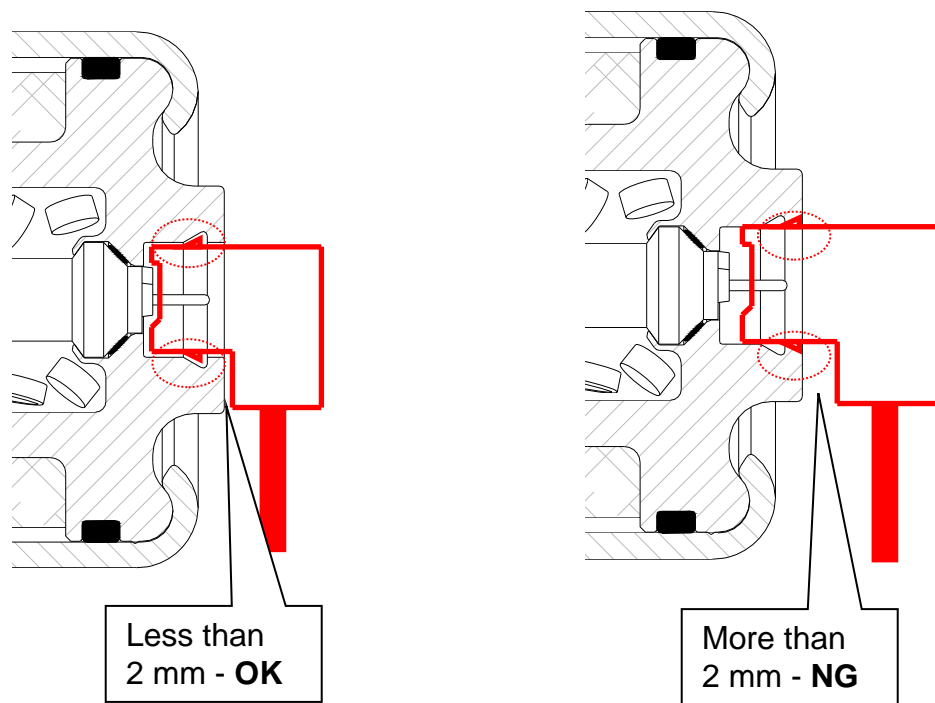

Figure 24
- Make sure the inflator connectors are fully engaged / seated (see Figure 24).